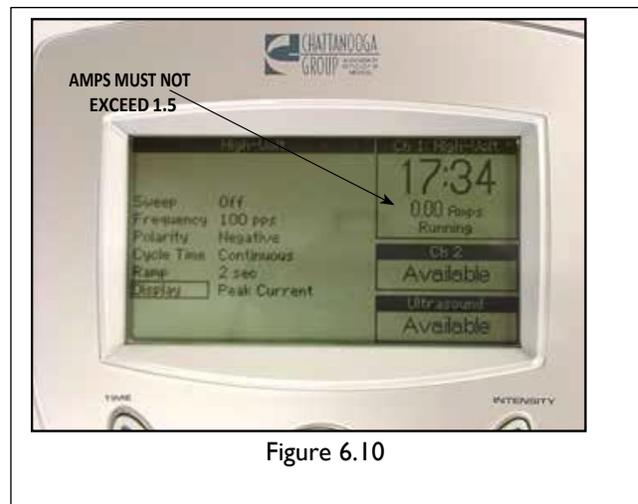

Figure 6.10
10. The numbers displayed for amplitude must not exceed 1.5 Amps. **See Figure 6.10**.